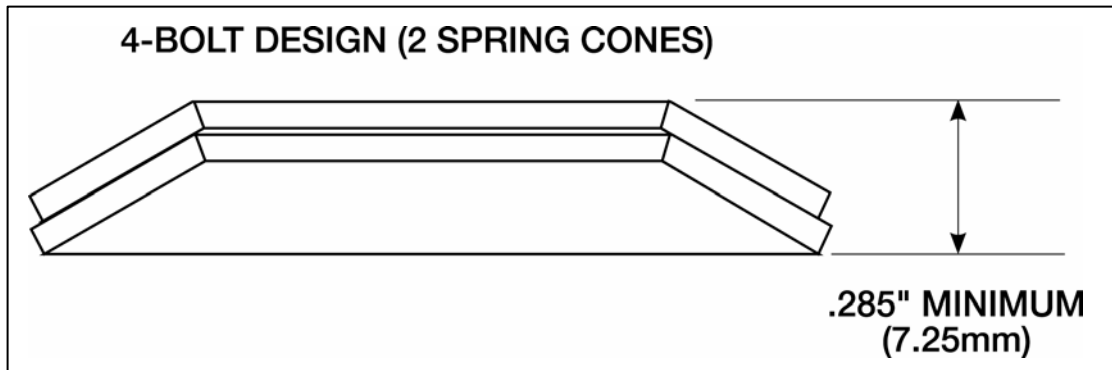

Figure 3A
2. Carefully clean and dry the contact surfaces of the cover (2) inside and where it contacts the gage body. Clean the surface of the gage body contacted by the cover, and clean the surface of the washer (5) to remove all traces of the cushion gasket (6).
3. Inspect the condition of the cover (2) for distortion due to previous over-tightening of bolts or indentation from spring cone contact. Place the cover over its contact surface on the body. The cover and body must make firm, flat contact. Manually check for rocking of the cover on the body surface. Replace cover if damaged.
5. Inspect the spring cones. Replace them if they are damaged or corroded or if the spring cone stack height is below .285 inch (7.25mm). See Fig 3A.